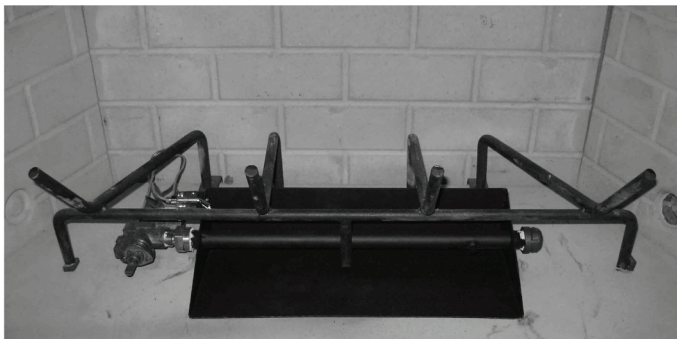

Figure 4.2 Center Burner Pan Under Grate
- The burner pan should be centered under the existing grate, side to side. The center leg of the grate should be positioned in front of the burner tube so as to ensure proper placement and proper flame position. Refer to Figure 4.2. Note: For easy placement, tilt grate up and hold burner pan at 45 degree angle starting with back left corner of burner pan.